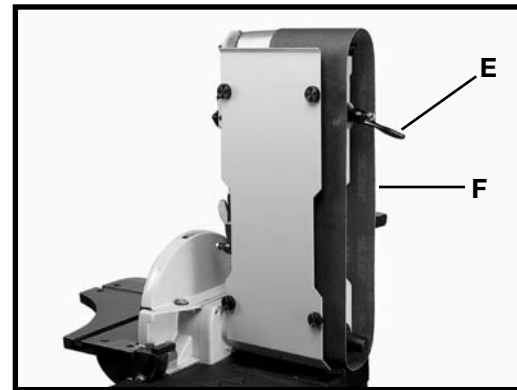

Fig. 43
3. For access to the power take-off shaft, remove the two screws (A) Fig. 43, and cover (B).
4. Release the belt tension by turning the hand lever (E) Fig. 43. Slide the belt (F) Fig. 43 off of both sanding drums.